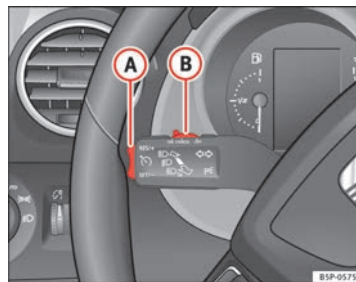

Fig. 152 Turn signal and main beam headlight lever: switch and rocker switch for the cruise control
- Press the upper part **RES/+** of the rocker switch ⇒ fig. 152 **A** to increase the speed. The vehicle will continue to accelerate as long as you keep the rocker switch pressed. When you release the switch, the new speed is stored.
Cruise control is switched off if you reduce speed by depressing the brake pedal. You can reactivate the control by pressing once on the upper part of the rocker switch **RES/+** ⇒ fig. 152 **A**.